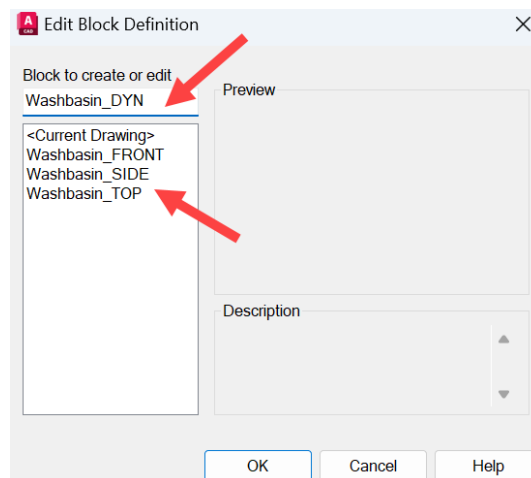

Figure 12.16: The Edit Block Definition dialog box
2. You will be prompted to edit a block definition with the **Edit Block Definition** dialog box, where all the regular blocks you created previously will be listed, as shown in *Figure 12.16*.
3. Also, add the new dynamic block name `Washbasin_DYN` in the **Block to create or edit** field, also shown in *Figure 12.16*, and click on **OK**.